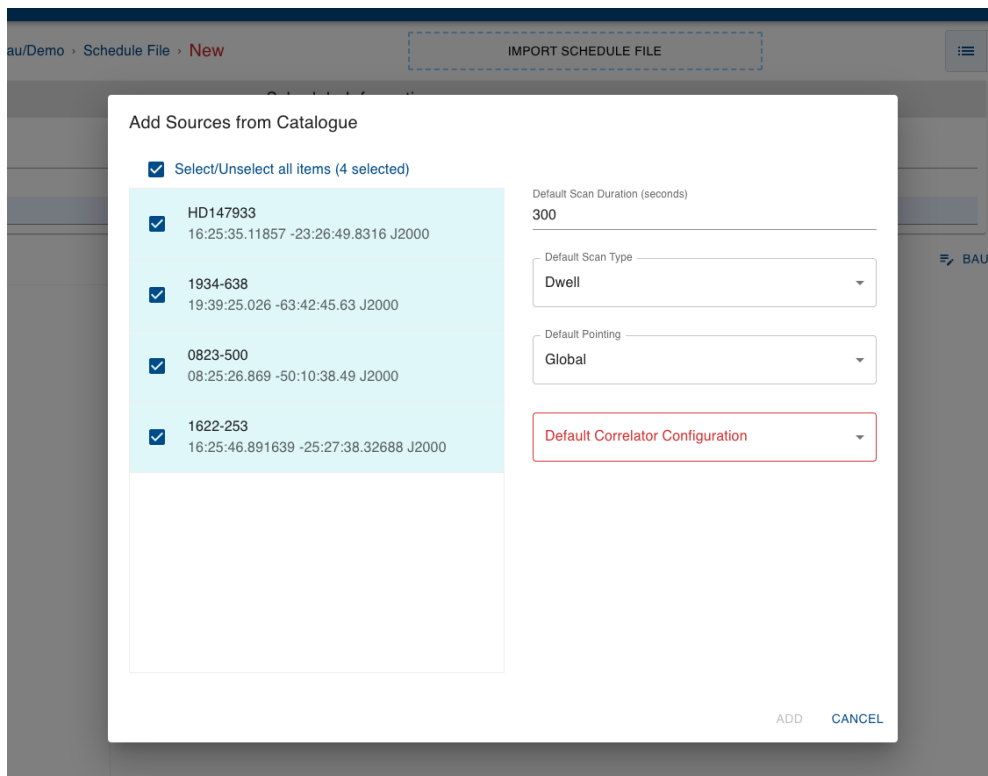

Figure 11: Adding sources from the catalogue into the schedule file.
- To add targets, use the “ADD TARGETS FROM CATALOGUE” or “ADD SCAN” buttons on the right (see Fig. 11). Optionally, if you already have a schedule file (in .sch format), you can upload that to set-up the scheduler.